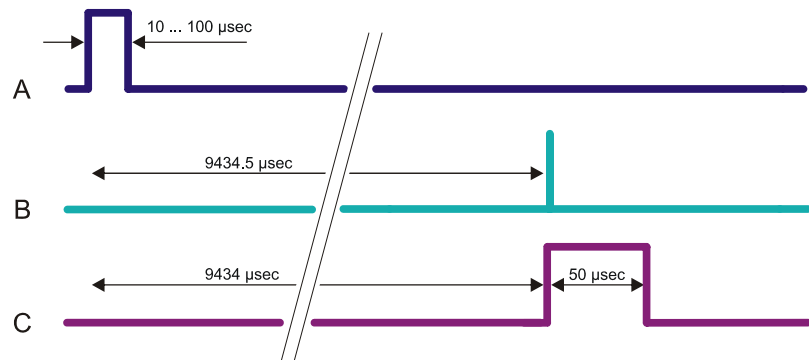
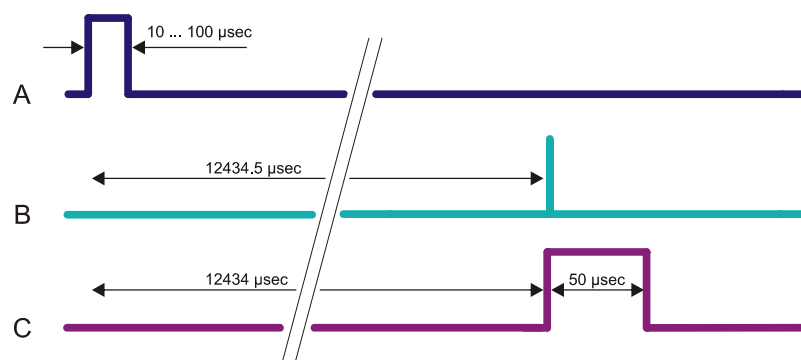

Figure 5: Delay, COMPexPro 50 and 110 with COD
Figure 6: Delay, COMPexPro 102 with COD
In the COD mode, capacitor charging is specifically triggered by the demand for a laser pulse rather than occurring automatically after the previous discharge. This maximizes the lifetime of the components in the high voltage (HV) circuit and prevents the laser firing a light pulse without receiving a trigger pulse (self-firing). The trade-off of COD is a long delay between the trigger-in signal and the laser light pulse. The exact length of this delay differs depending on the version of the laser device (see Figures 5 to 7).
In the case of the COMPexPro 110, there is an exception to the delay times indicated in Figure 5. Interacting parameters such as the signal-to-light delay and the maximum permissible HV are normally set to enable operation at the maximum permissible repetition rate (100 Hz). However, when operating in the HV constant mode at repetition rates below 10 Hz, the HV setpoint can be increased to a value above the usually applicable maximum. To compensate for the necessary additional capacitor charging time, the signal-to-light delay is automatically increased to the value specified for the COMPexPro 102 (see Figure 6).